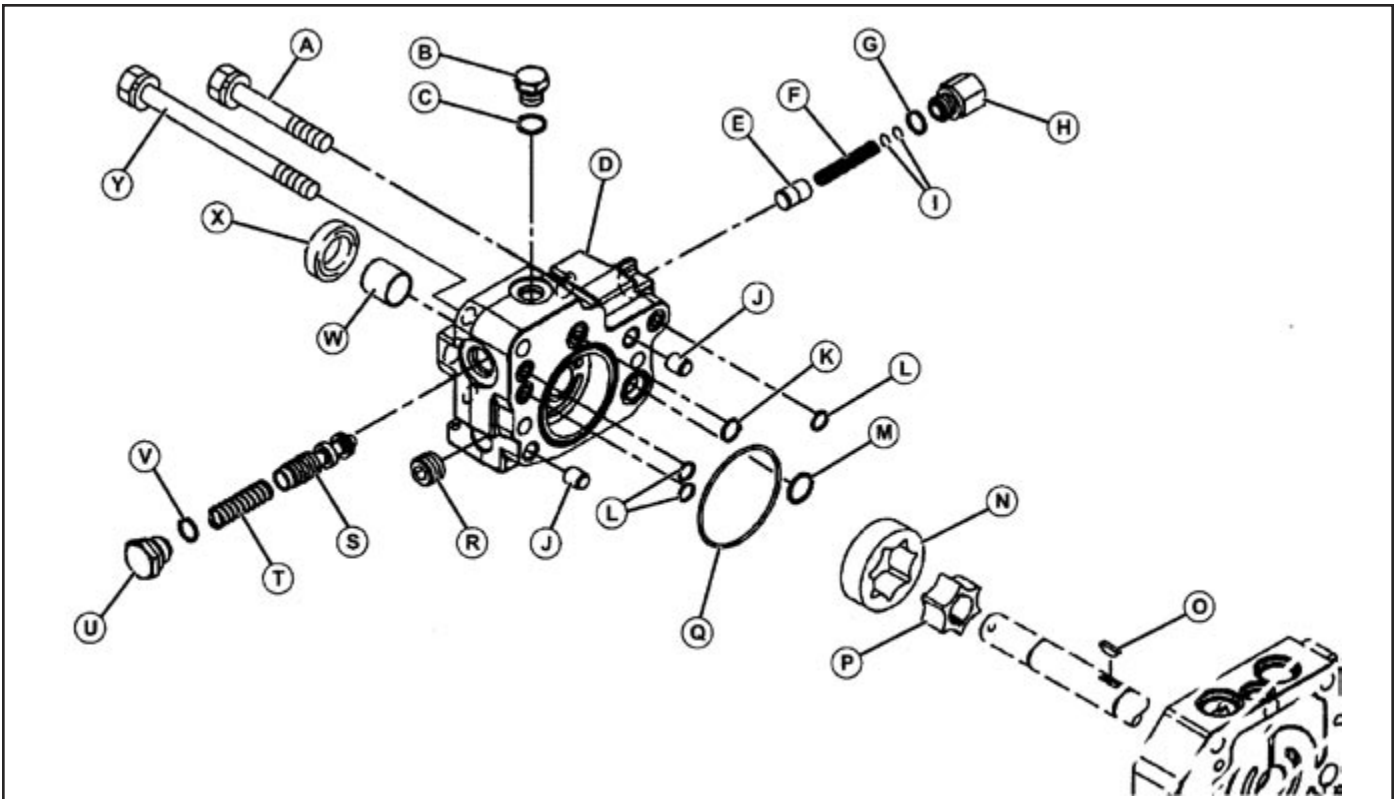

Fig. 3, Charge Pump Disassembly
2. Remove two (2) short (A) and one long (Y) cap screw. (Fig. 3)
6. Check small orifice in reducing valve (S) spool for obstruction.
8. Remove plug (H) to remove charge pressure relief valve parts (E, F, G, and I). (Fig. 3)
11. Inspect seal (X) and bushing (W) for wear or damage.
1. Disassemble all parts of charge pump (D). (Fig. 3)
2. Inspect O-rings (C, K, L, M, and Q) for cuts or damage. Replace as necessary. (Fig. 3)
4. Remove plug (U) to remove pressure reducing valve parts (V, S, and T). (Fig. 3)